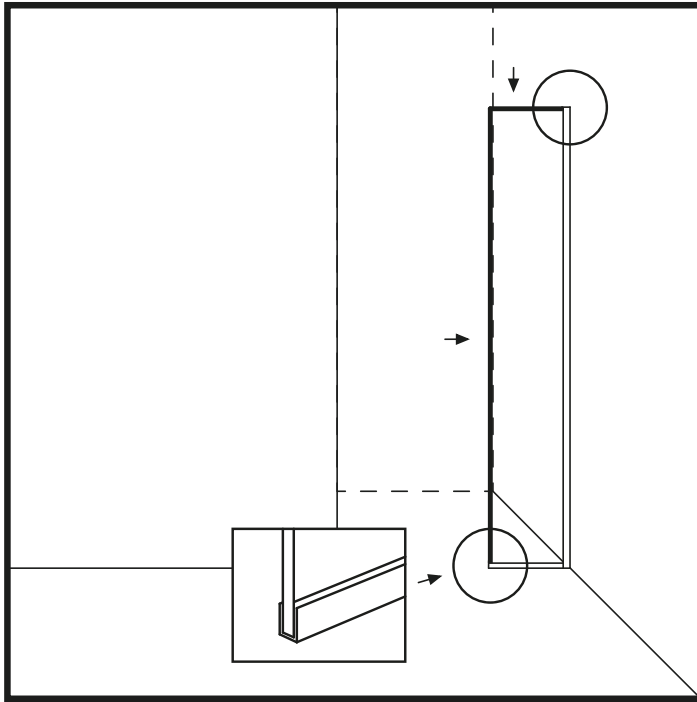

Figure 7
16. Place the shower glass between the U-profiles and press it both towards the wall and downwards so that the silicone adheres to the glass. (Figure 7)